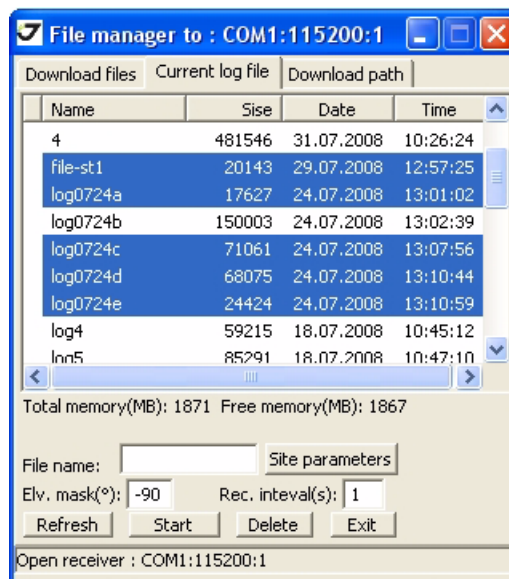

Figure 5-6. Current log files tab
3. Click *File* ► *File Manager* and select the file(s) to delete on the *Current log files* tab (Figure 5-6).
5. Click *Delete* (Figure 5-6 on page 59).